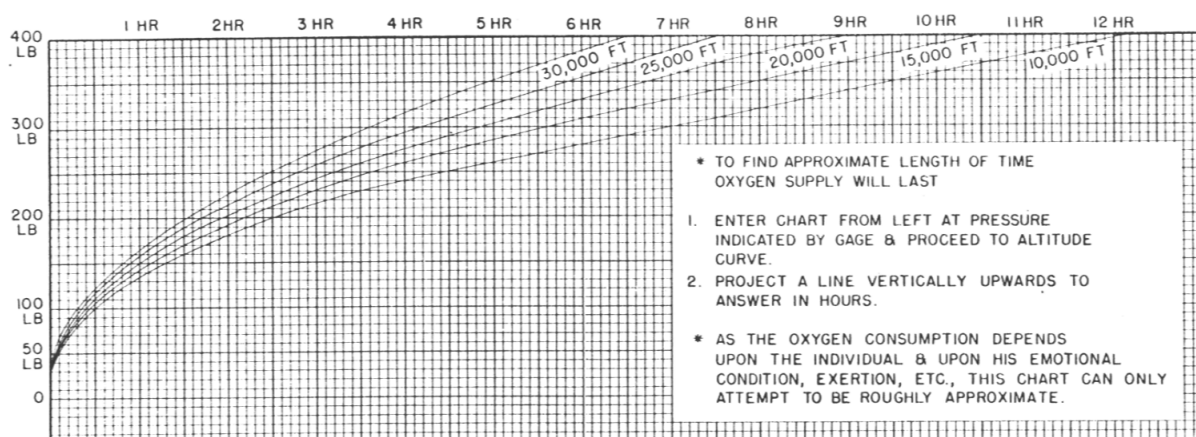

Figure 40—Oxygen Consumption Chart
g. RECOGNITION LIGHTS.—For operation of recognition lights, see Section II, paragraph 23, a. (5).
a. DESCRIPTION.—Oxygen is supplied from two Type D-2 and two Type F-2 low pressure oxygen cylinders. A Type A-12 demand regulator, cylinder pressure gage, low-pressure warning signal, and flow indicator are in the cockpit (see figure 39). A Type A-9, A-9A, A-10, or B-14 mask may be used with this equipment. The blinker flow indicator operates with the breathing of the wearer, indicating proper functioning of the system. When the pressure of the cylinders drops to the danger point (100 lbs./sq. in.), a signal lamp on the instrument panel illuminates. The oxygen cylinders may be refilled without removal from the airplane by means of a filler valve on the left rear side of the fuselage. Normal full pressure of the system is 365 lbs./sq. in. See figure 40 for oxygen consumption chart.